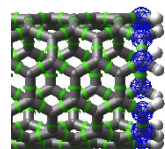

Figure 16
8. To the other end of the carbon nanotube, you want to attach a linear motor. Click Build → Atoms. Click and drag to select the first ring of carbon atoms. (Figure 16)